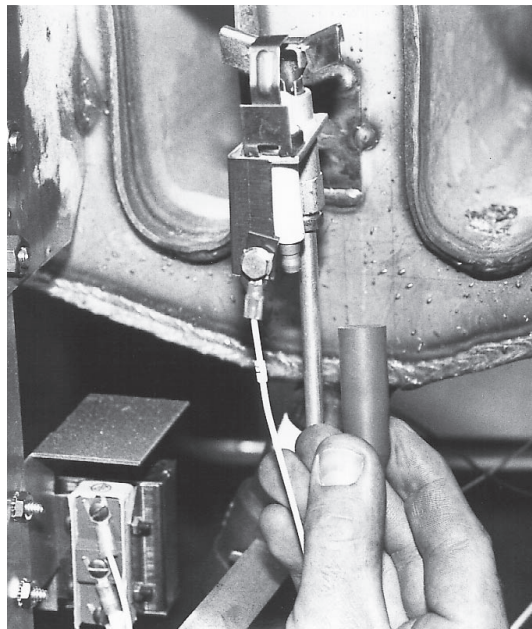

Fig. 35
5. Remove the ignitor boot. (Fig. 35)